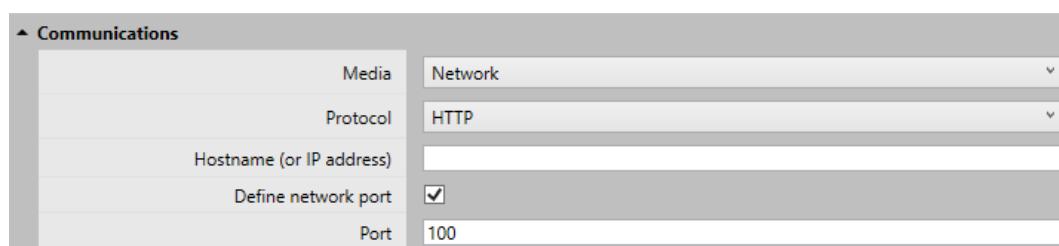

Figure 3-60: Communications > Define network port
- *Protocol*: When adding a DGA 900-family device, MS 3000 or CB Watch 3 there is the option to use either the HTTP (default port 80) or HTTPS (default port 443) protocol. The selected protocol must match the protocol set on the device. For DGA 900-family devices, it is possible to define a non-standard port, select the checkbox **Define network port** and specify a port from 0 to 65535 as shown in Figure 3-60.